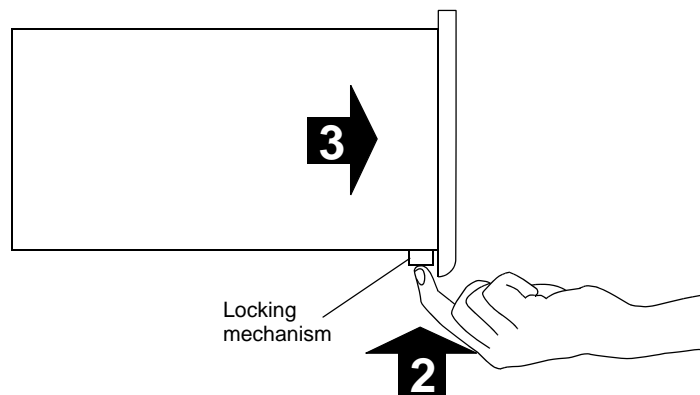

Figure 2-12. Removing an IQ Module
2. If your module has a locking mechanism, push up the locking mechanism under the front panel of the module, as shown in Figure 2-12. Otherwise, simply place your fingers under the front panel of the module.